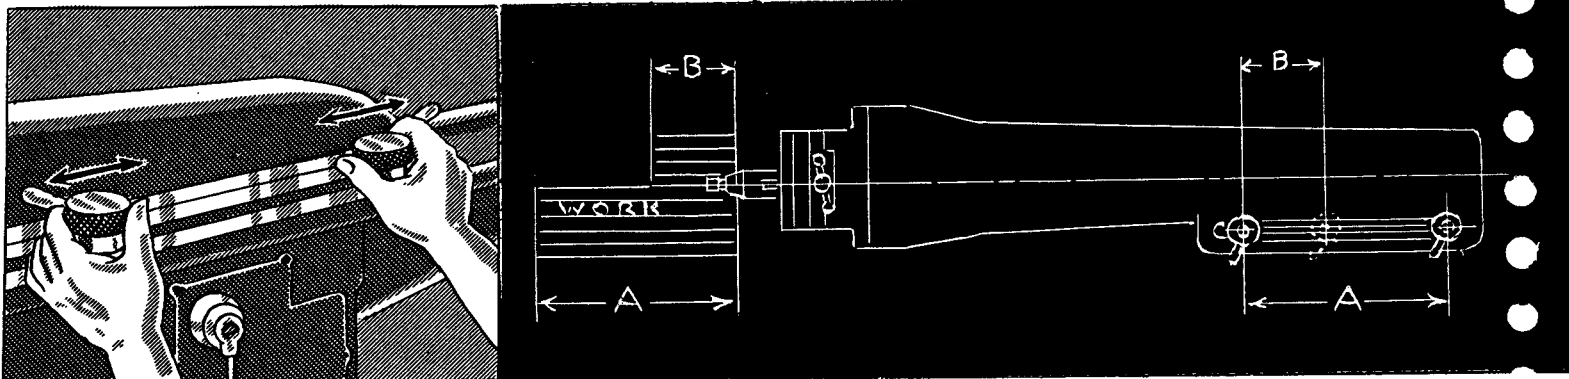

FIG. 81
11. Observe the position of the cutting tool with relation to this end of the work. If the tool passes beyond the work more than three-fourths of an inch, move the front trip dog back a distance equivalent to the excess in length of the stroke. Conversely, if the cutting tool does not travel back sufficiently to clear the work by the required distance, move the front trip dog forward a distance equivalent to the deficiency in stroke length. (Refer to Figs. 81 and 82.)